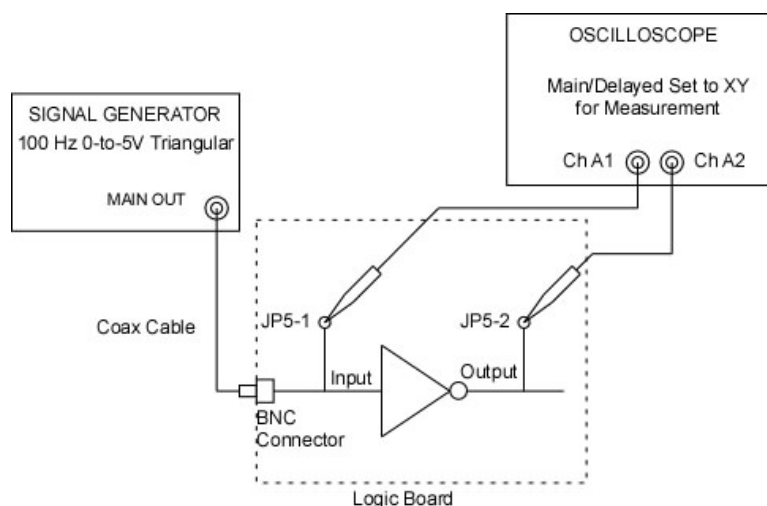

Figure 1-5 Setup for Finding Transfer Characteristics
- 6) Connect both scope probe ground clips to the 4-pin connector labeled GROUND at the left edge of the logic board. This completes the physical setup in Fig. 1-5 for making the transfer characteristic measurement.